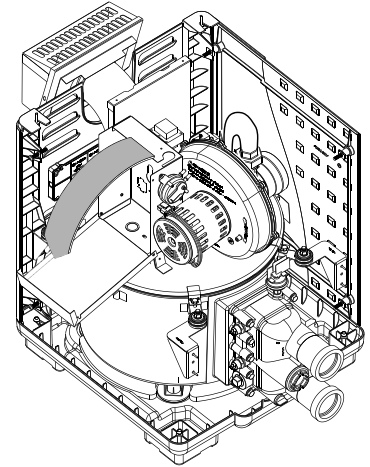

Figure 31.
3. Open control box cover (see Figure 31).